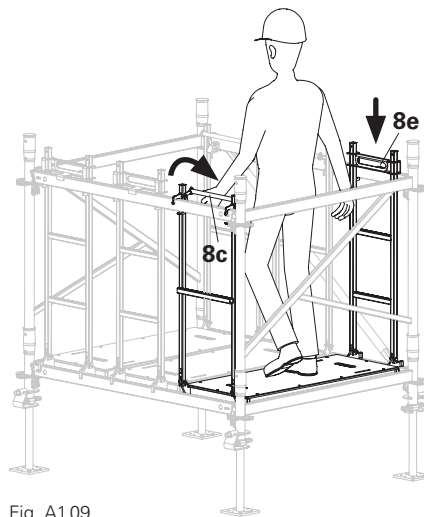

Fig. A1.09
6. Install the final deck, positioned at 180° to the other decks. (Fig. A1.09)
- (Fig. A1.09)